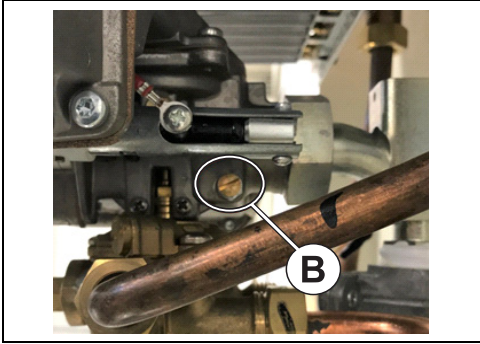

Fig. 14 Inlet measurement test point
- ▶ Turn off the gas to the appliance, remove the sealing screw of the pressure test point on the right hand side of the gas valve (Fig. 14, [B]) and attach a manometer.